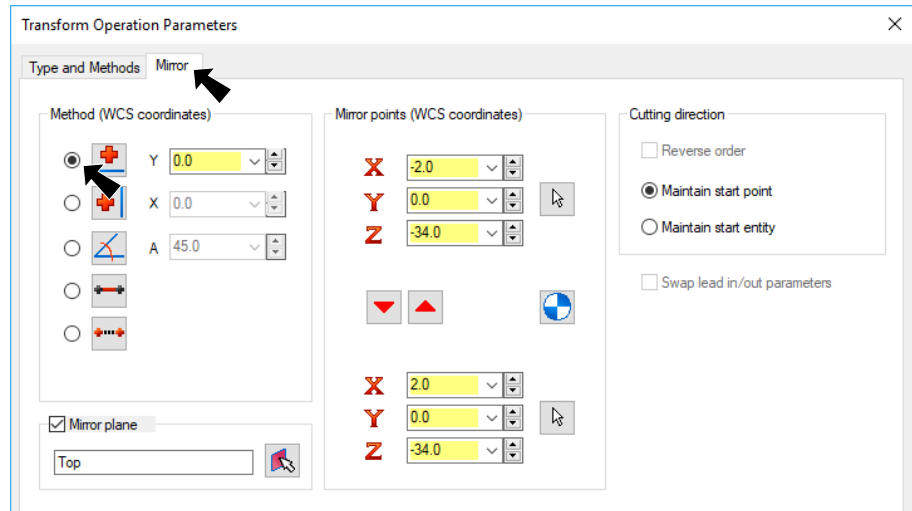

Fig. 27
Step 3. Click the **Mirror tab** at top of dialog box, **Fig. 27**.